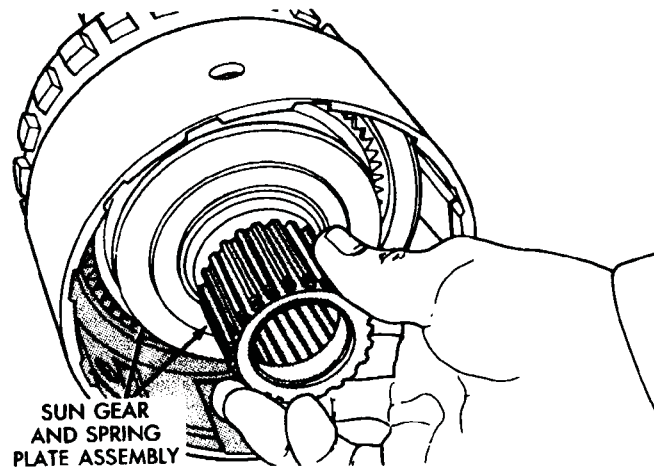

Fig. 54 Sun Gear Installation
(16) Install assembled sun gear, spring plate and thrust bearing (Fig. 54). Be sure sun gear and thrust bearing are fully seated before proceeding.